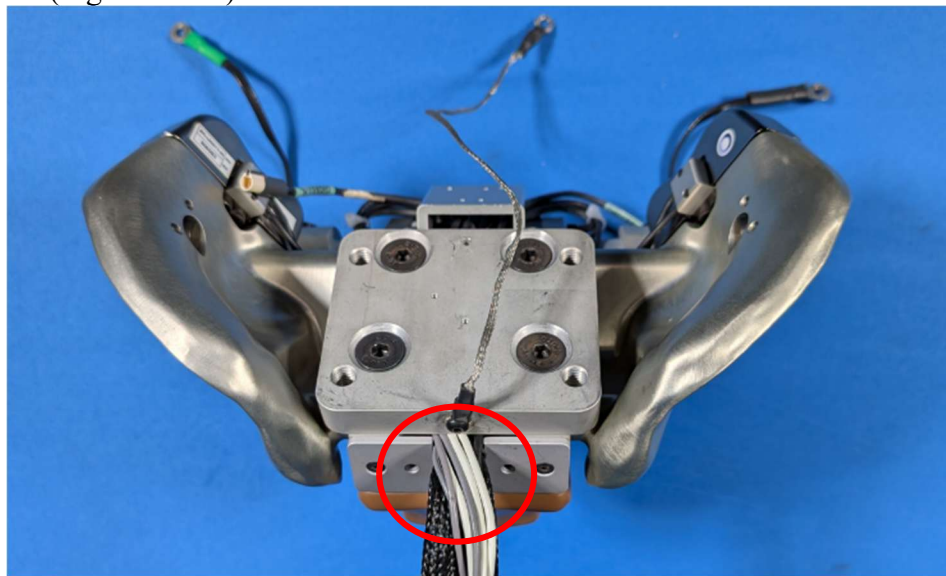

Figure 13-28. Rear pelvic instrumentation cover installed with proper wire clearance to prevent pinching
13.4.3.6 Take care to not pinch wires while installing the rear pelvic instrumentation cover (Figure 13-28).